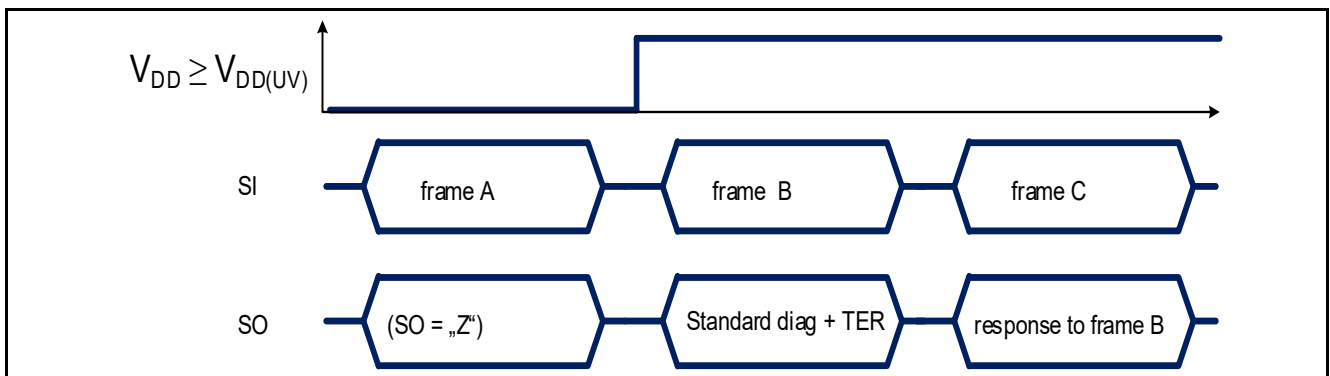

Figure 43 TLD5542-1 response after coming out of Power-On reset at V_{DD}
- when TLD5542-1 logic supply comes out of an Undervoltage reset condition ($V_{\text{DD}} < V_{\text{DD(UV)}}$) as shown in **Figure 43** or $\text{EN/INUVLO} < V_{\text{EN/INUVLOth}}$